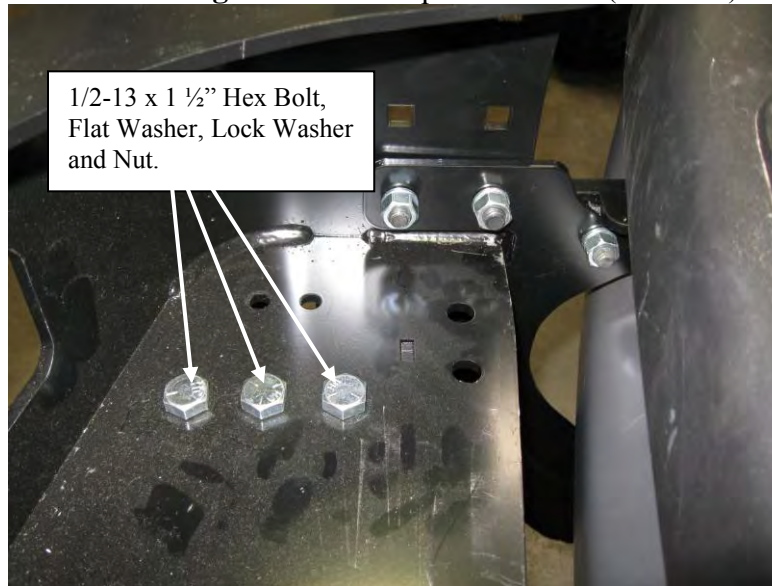

Figure 12: Large Frame Carrier: Carriage Hex Bolt Positions.
15. Tighten the six hex bolts as shown in **Figure 12** and torque to 50 lb. ft. (67.8 N-m).